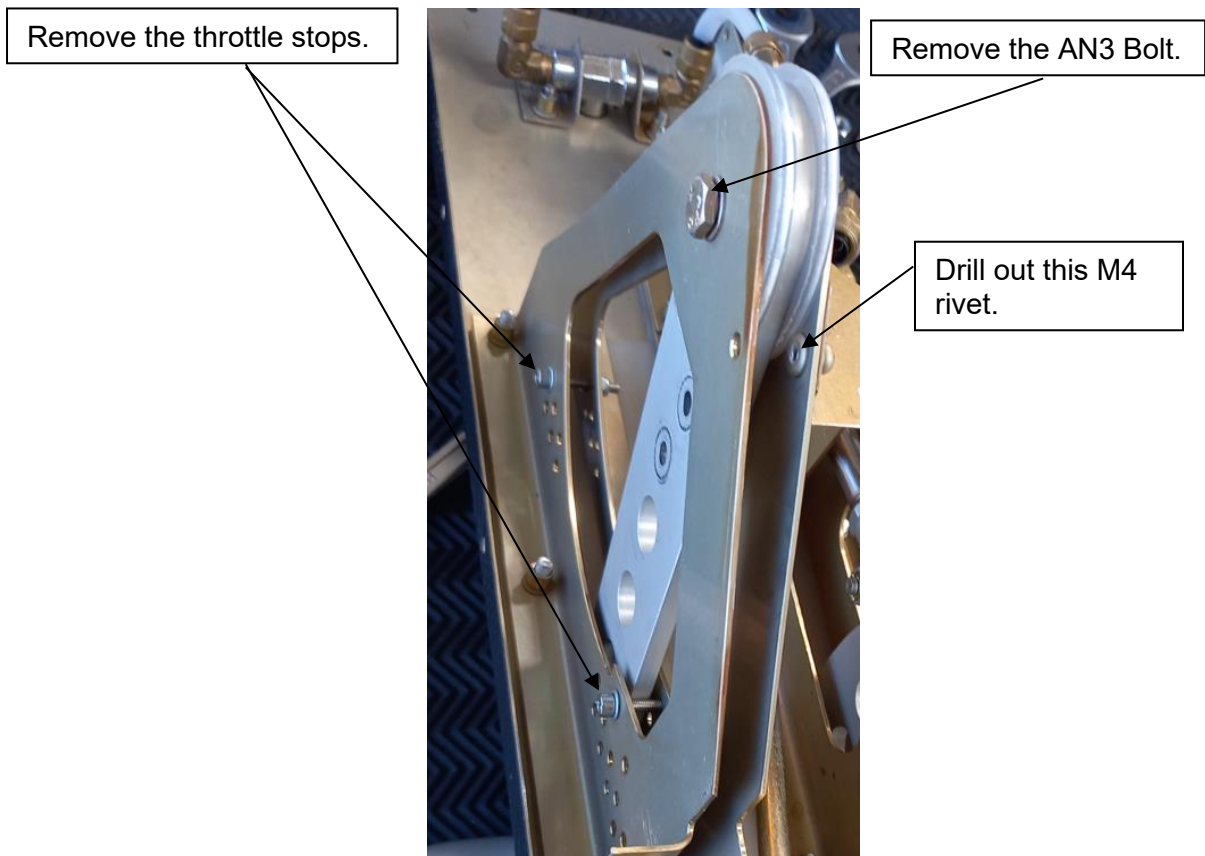

Figure 14
Step 7: Once the three screws have been removed from the outer bracket, remove the AN3 bolt shown in Figure 14, as well as the throttle stops. Once the bolts have been uninstalled, the bracket can be removed, and the rivet must be drilled out.